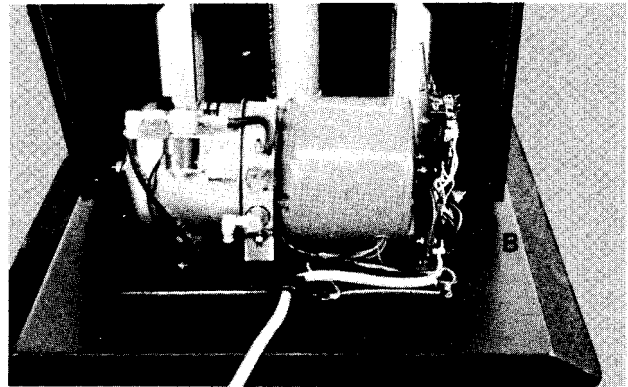

Fig. 27
- 2) Remove strain relief bushing, Item A, Fig. 27 from cord by grasping bushing with hand pliers (See Special Tools on Page 19), squeezing tab on bushing, and pulling bushing out of hole in bracket.
- 4) Remove (1) screw, Item B, Fig. 27 securing the green grounding wire to the table base.
- 6) Install new power cord on table by inserting cord through the bracket (See Fig. 27), connecting the black and white wires to the terminal board, and installing the (1) #10-24 x 3/8" self tapping screw, Item B, Fig. 27 through the green grounding wire terminal to secure the ground wire to the table base.
- 7) Position strain relief bushing on the cord, close the bushing, grasp bushing with hand pliers squeezing the tab, and push bushing into hole in bracket. See Fig. 27.